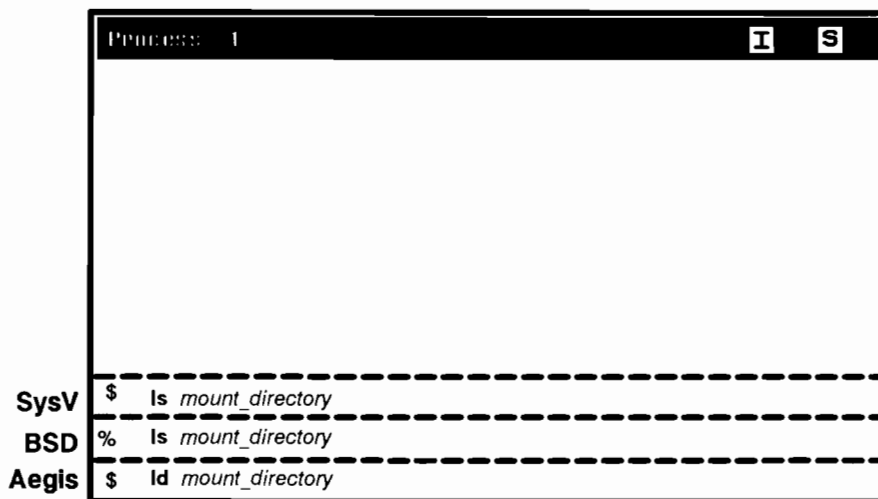

Figure 5-11. *ld and ls Command*
2. Now you can access the CD-ROM disk as you would any other disk, with the exception that you cannot write to the CD-ROM disk. For example, to list the contents of the CD-ROM disk, enter the following command as shown in Figure 5-11: